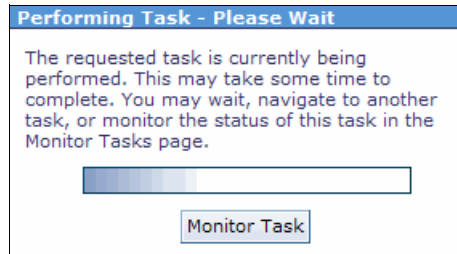

Figure 4-101 Performing Task panel
5. The window in Figure 4-101 opens. It is closed when the configuration change is finished.
6. A Performing Task window is shown, as depicted in Figure 4-101 on page 140. The window closes when the new configuration is applied.
- A Performing Task window is shown, as depicted in Figure 4-101 on page 140. The window closes when the new configuration is applied.